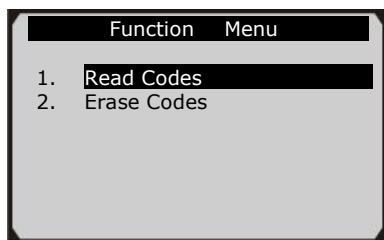
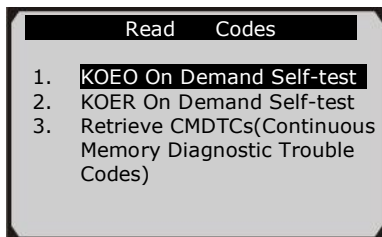

Figure 5-23
Figure 5-24
In the **Function Menu** screen (Figure 5-23), select **Read Codes**. This will display the **Read Codes** menu screen. (Figure 5-24)
1. With the **Function Menu** screen displayed (Figure 5-23), click on **Erase Codes**. The scan tool displays an instruction message.